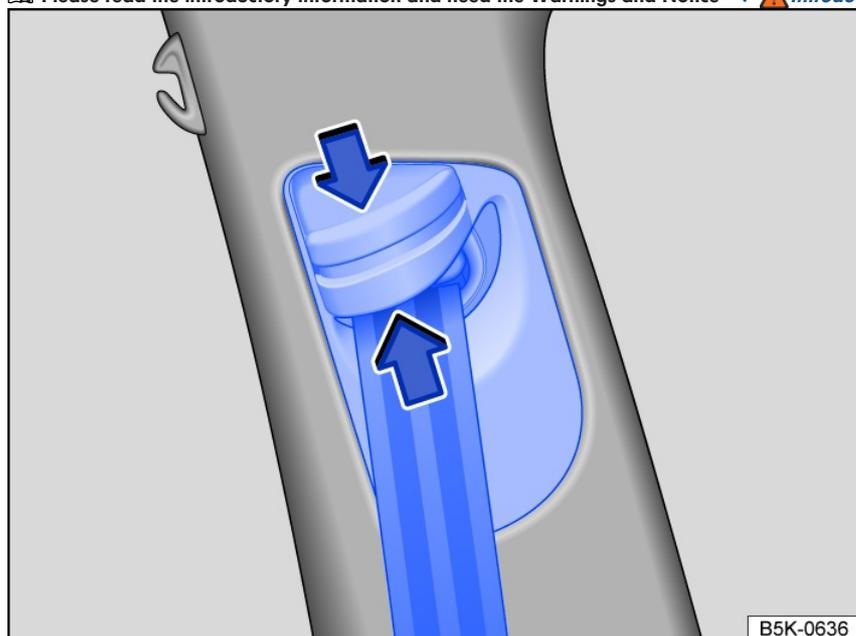

Fig. 32 Next to the front seats: safety belt height adjuster.
- Press the safety belt attachment together in the direction of the arrows and hold fig. 32.